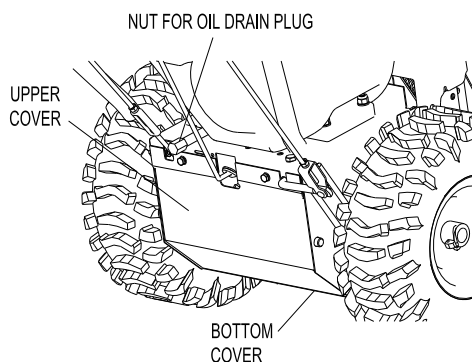

FIG 12
6.7.2 Remove the nut of the oil drain plug. (FIG 12)
6.8.3 Remove the upper and the bottom cover. (FIG 12)